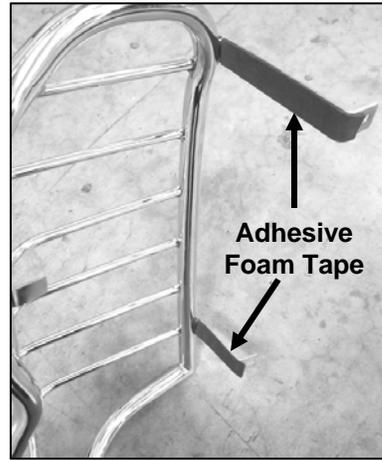

Figure 2
- Locate the driver side Taillight Guard and place (1 ea) Adhesive Foam Pads on each on the inner side on the Mounting Brackets (**Figure 2**).